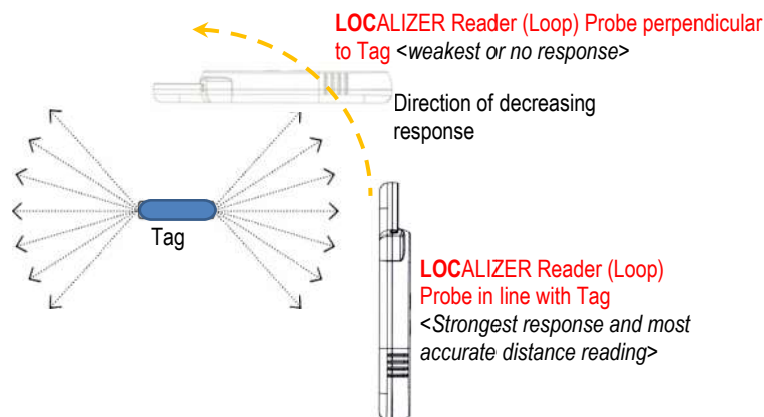

Figure 3. Assessing Tag location/ position with Loop Probe using signal strength (not to scale)
*As measured from center of the Loop probe to end of Tag (Figure 3)